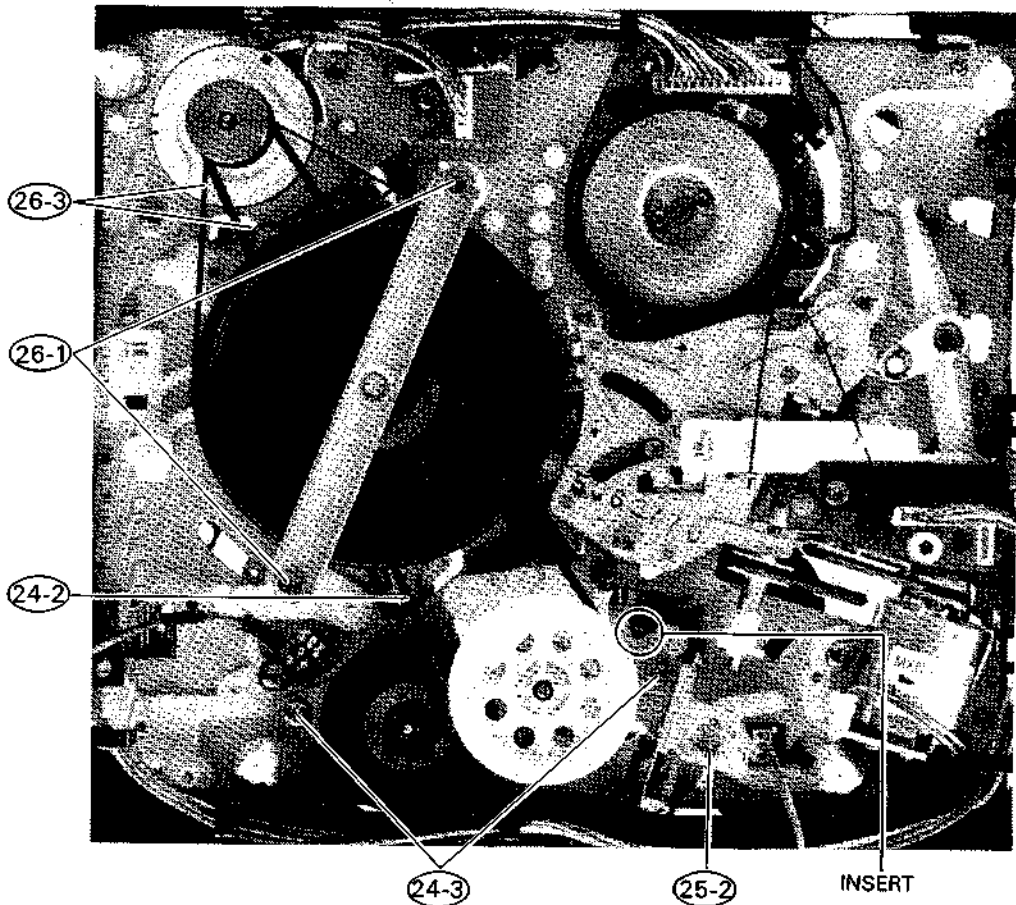

Fig. 15 Bottom View of Mechanism
* Components in items 24 to 26 are described as if the top and bottom covers have already been removed. (See items 2 and 3 in the section on case removal)
24. Clutch Plate Assembly (Fig. 15)
- 1) Remove the reel drive gear (see item 15).
25. Brake Slider (Fig. 15)
26. Capstan Flywheel (Fig. 15)